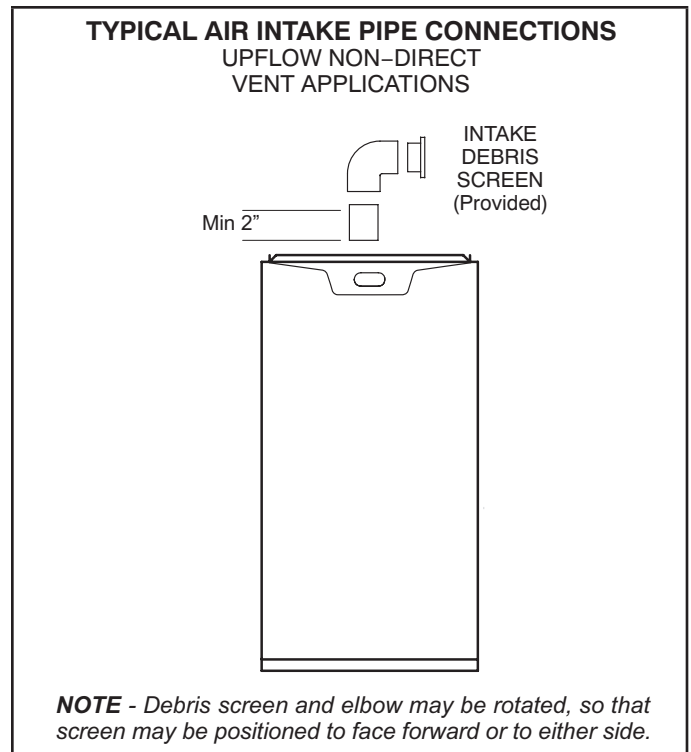
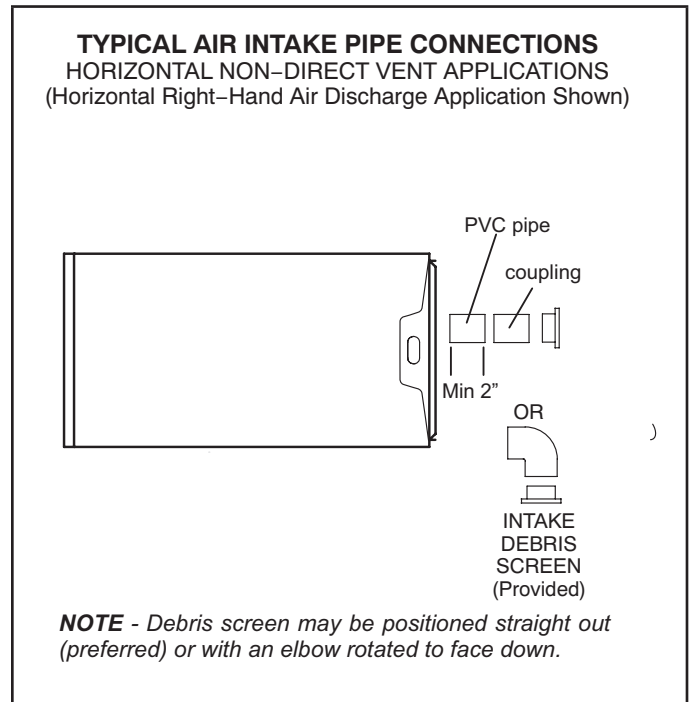

Figure 27
Figure 28
- 1 - Use field-provided materials and the factory-provided air intake screen to route the intake piping as shown in Figure 27 or Figure 28. Maintain a minimum clearance of 3" (76mm) around the air intake opening. The air intake opening (with the protective screen) should always be directed forward or to either side in the upflow position, and either straight out or downward in the horizontal position. **The air intake piping must not terminate too close to the flooring or a platform. Ensure that the intake air inlet will not be obstructed by loose insulation or other items that may clog the debris screen.**